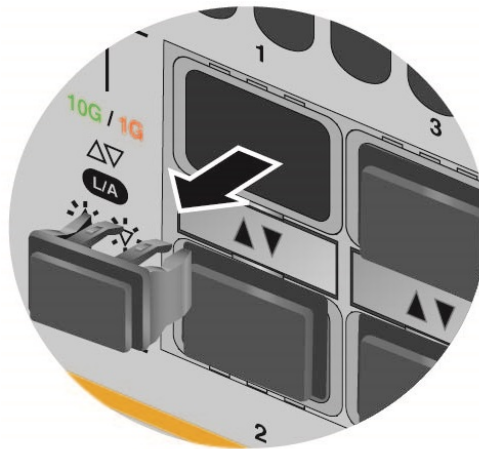

Figure 78. Removing the Dust Plug from an SFP Slot
2. If the slot has a dust cover, remove it. Refer to Figure 78.
1. If the slot has a dust cover, remove the cover. Refer to Figure 78 on page 168.